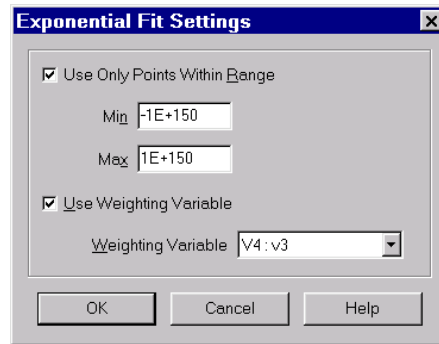

Figure 8-19. The Exponential Fit Settings dialog.
1. Click Curve Settings. The Exponential Fit Settings dialog appears, as shown in Figure 8-19.